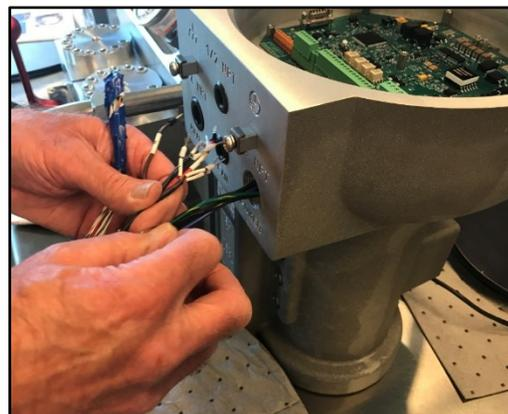

Figure 2-46. Wiring Routing for Connection
16. To protect wires while routing them through the VS housing, wrap wires with vinyl electrical tape. To make the cable installation process easier, create two harness bundles (Figure 2-46).
Verify all wires are routed through the conduit adapter (Figure 2-46).
17. Carefully route each individual bundle of cable wires through the servo power port to prevent wire damage (Figure 2-46).